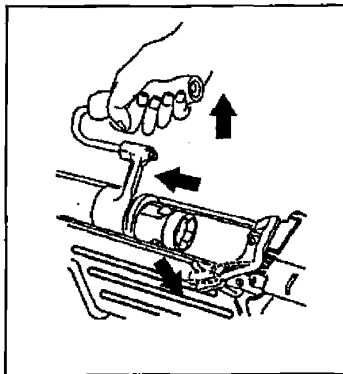

Figure 071-312-4025-7. Remove the barrel
e. Remove the handguard (figure 071-312-4025-8)